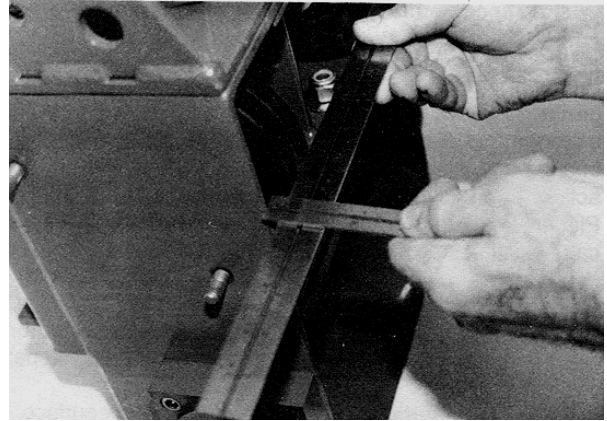

FIGURE 51
3) Position the front casters so that their faces extend approximately 7/16 inch (11.1 mm) beyond the bottom surface of the main frame. Caster wheels have a slight curvature on their faces. The measurement should be taken at the high point of the curvature. FIGURE 51.